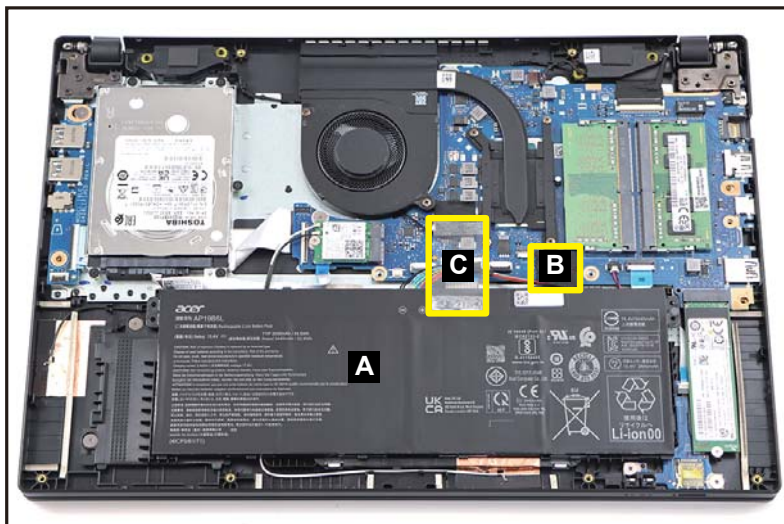

Figure 1-6. Battery Pack Removal
1. Find the battery pack (A) in the system (Figure 1-6).
2. Detach the tape (B) securing the battery cable connection (Figure 1-6).
3. Detach the transparent mylar (C) securing the cables (Figure 1-6).